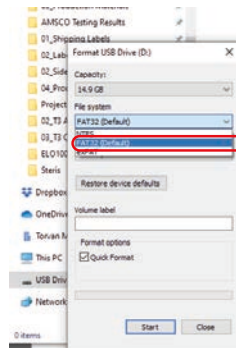

Fig. 58
3. Change the "File System" to FAT32 and then press Start to format the USB to FAT32 (Fig. 58).